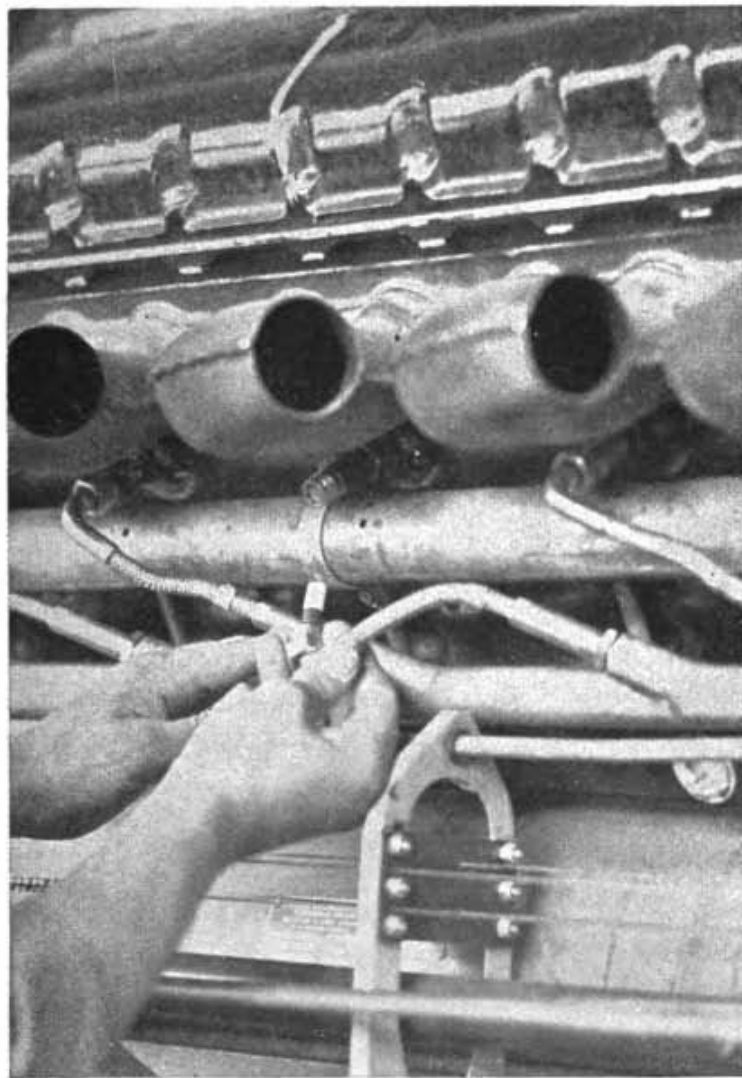

Figure 78. Checking ignition harness.
(1) IGNITION SWITCH IN "OFF" POSITION. With the switch in this position, both magnetos remain grounded, the booster coil circuit is open, and high-tension current to produce spark is not furnished to the spark plugs.
(2) DEFECTIVE BOOSTER MAGNETO COIL. Examine and test the booster coil. Bits of dirt or other foreign material between the points are generally the troubles affecting proper operation. Check the ground connections and make sure that they are clean and securely tightened.
(3) FAULTY IGNITION HARNESS. Moisture, deterioration, or loose and improper connection will short the ignition circuit. Replace the ignition harness when it is found defective. Examine all connections for condition and proper tightness.
(4) DEFECTIVE MAGNETO BREAKER POINTS OR CONDENSER. Trouble may be caused by points that are sticking open, by worn or pitted points, by incorrectly adjusted points, or by a shorted condenser. Check the breaker points for proper opening and readjust if necessary. If the points are excessively worn or pitted, replace the magneto or replace or dress the points, whichever is specified in Technical Orders. If condenser trouble is suspected, remove the condenser and if the engine operates, install a new condenser.
(5) FOULED SPARK PLUGS. When all spark plugs are fouled, combustion failure will occur. To check for this condition plug in an air-cooled engine, remove and inspect the spark plugs. If they are lead fouled, replace them. If the plugs are oil fouled, wash them in gasoline, dry them thoroughly with compressed air, check and reset the gap clearances, and reinstall them. To check for this condition in an in-line engine, remove one of the spark plug leads and expose the sleeve insulator and spring. Have someone attempt a start of the engine, then cautiously place the end of the spring approximately $\frac{1}{8}$ inch from some spot or ground on the engine and check the spark jump. If this is satisfactory, clean or replace plugs as herein directed. (See fig. 78.) If no spark is obtained, check the magneto for dirty or inaccurately spaced contact points or defective distributor. (See (4) above.) (Be careful of the rotating propeller and be certain that secure footing is available before performing the check.)